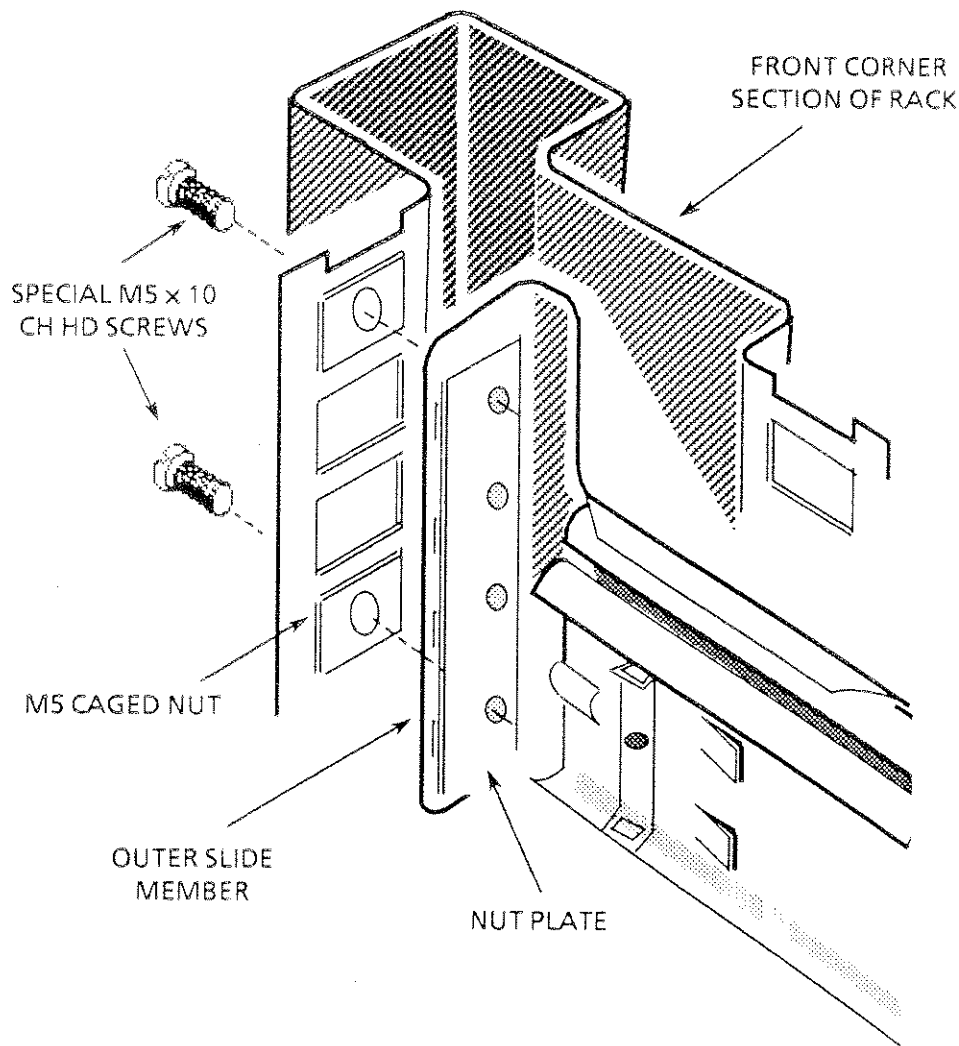

Fig 2.11 *Fitting the outer slide members into the rack.*
5. Fit the outer slide members to the rack, as shown in Fig 2.11.